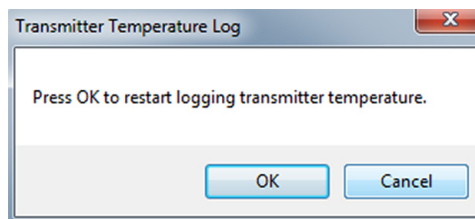

Figure 5.4—Transmitter Temperature Log reset dialog
1. Click **Reset**, and click **OK** in the dialog that appears (shown in Figure 5.4).